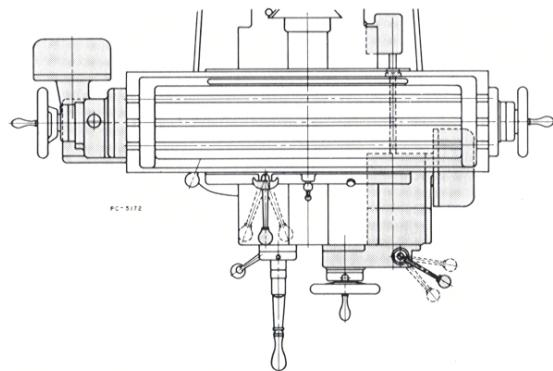

Figure 17B
Starting the Machine—If machine is equipped with power feed units, place directional feed levers in neutral or stop positions as shown in Figure 17B. If power feed unit is supplied, turn motor toggle switch (on push button panel) to off position. Check belt adjusting knob, Figure 20B, for tightness to insure maximum drive of belts to spindle sheave. Set the spindle motor switch to the off position.
1. If the machine is equipped with power feed to the table or saddle, place the feed levers in their neutral position. (Fig. 17B)